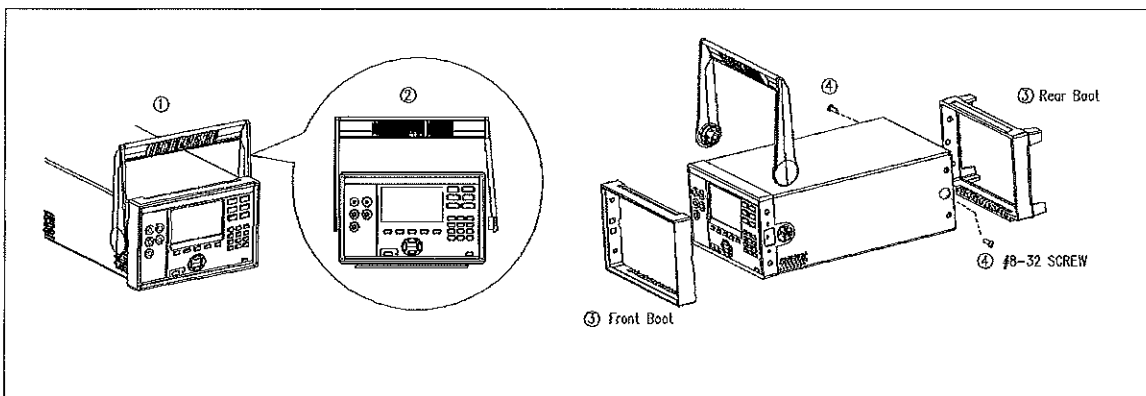

Figure 1
1. With the Meter flat on the desk, rotate the Meter handle to the vertical position over the top of the Meter as shown in Figure 1.
2. Remove the handle by pulling one side of the handle outward, away from the Meter until free, as shown in Figure 1. Then pull the other side of the handle out, away from the Meter.
4. Remove the side screw(2) from the Meter.